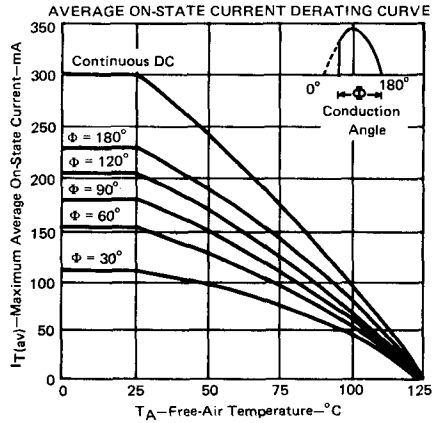

FIGURE 6
3. These values apply for continuous d-c operation with resistive load. Above 25°C derate according to Figure 6.